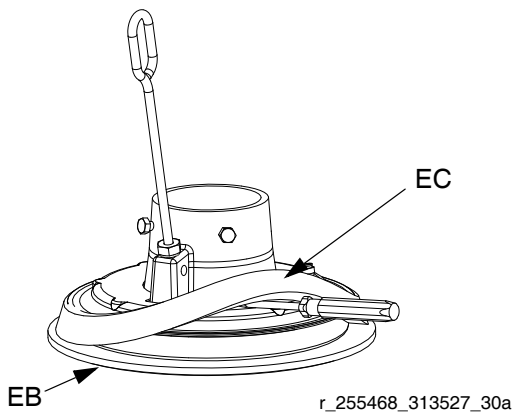

FIG. 16: Sliding spacer
3. By hand, angle spacer (EC) and work it off the plate, pulling it down over the flange and bottom wipers (EB). See FIG. 16.
4. Save spacer (EC), as it is required for other applications.
2. Ensure large diameter of spacer (EC) is facing **down**. Work spacer (EC) up over the platen by hand completely above the flange of the platen. See FIG. 16.